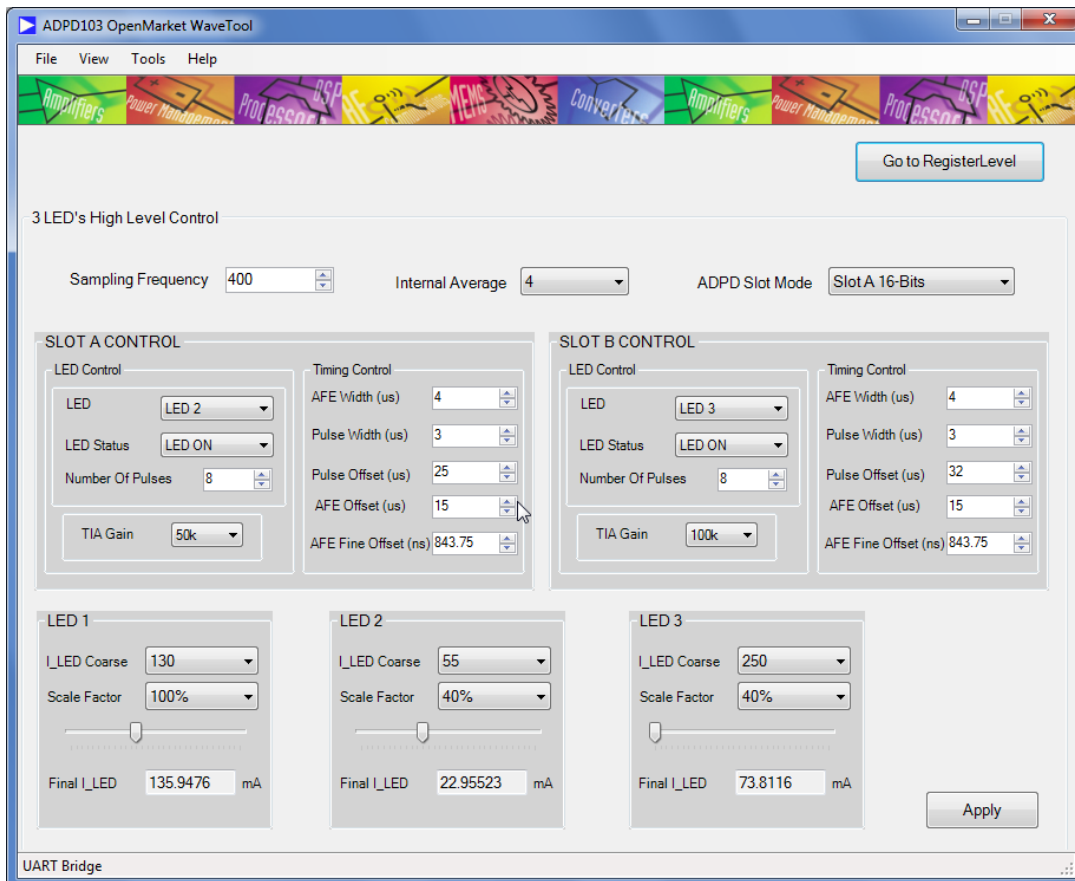

Figure 16. Main Screen High Level View
Figure 16 shows the ADPD103 high level configuration window. This window offers an entire set of high level parameter controls. The configurable parameters are as follows:
- **Internal Average** (identical for both slots)—controls the output data rate, which is equal to the sampling frequency divided by the internal average. For example, a sampling frequency of 400 Hz and an internal average setting of 4, as shown in Figure 16, results in an output data rate of 100 Hz.